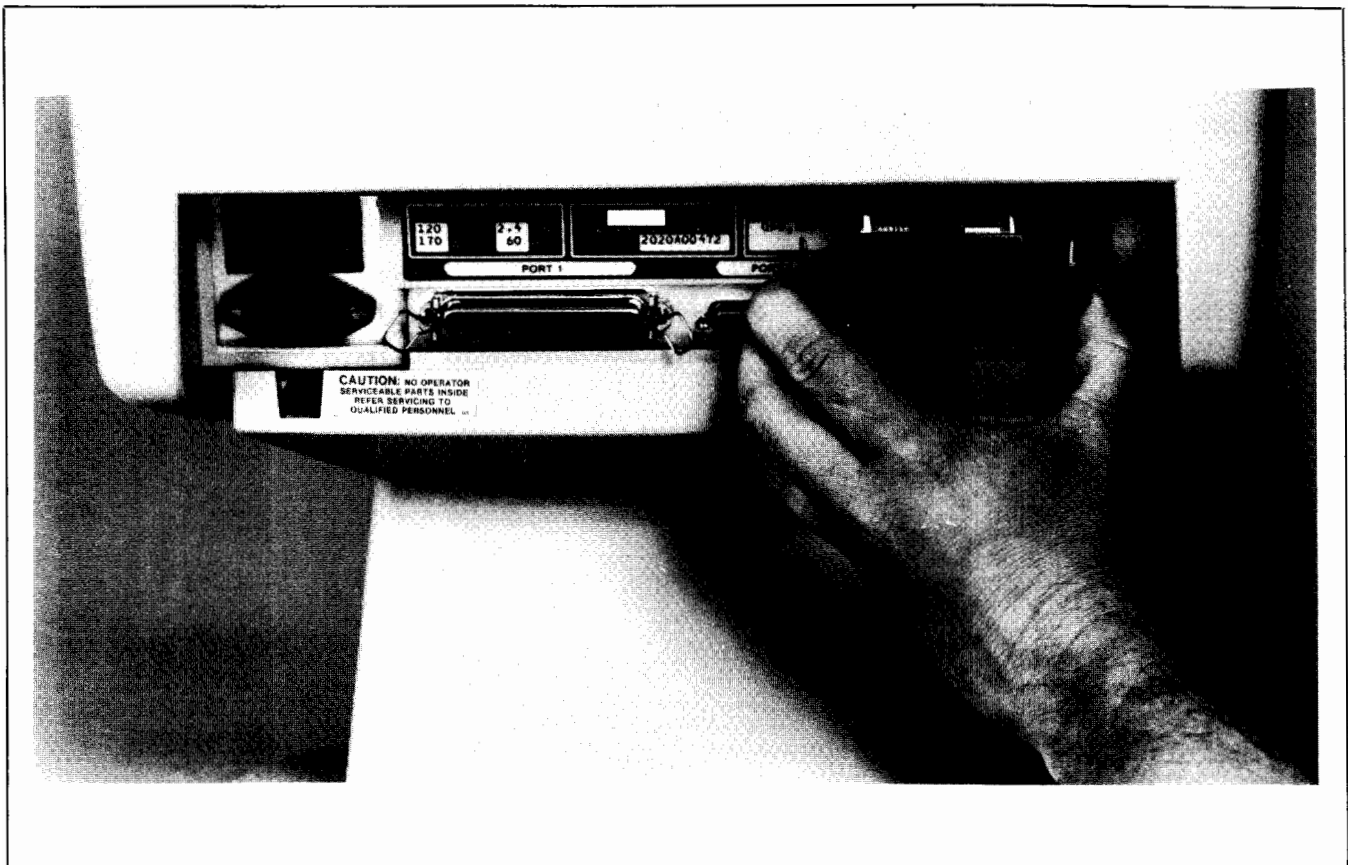

Figure 10-2. Removing the Battery
1. Use your thumb and index finger to grasp the battery support at points A and B as shown in figure 10-2.